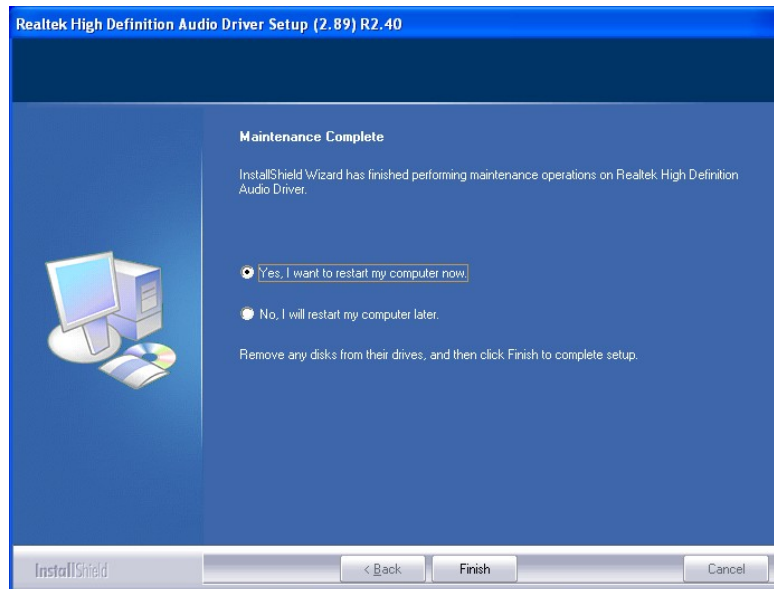

Figure 5-21: Audio Driver Installation Complete
Step 7: When the installation is complete, the screen in **Figure 5-21** appears.